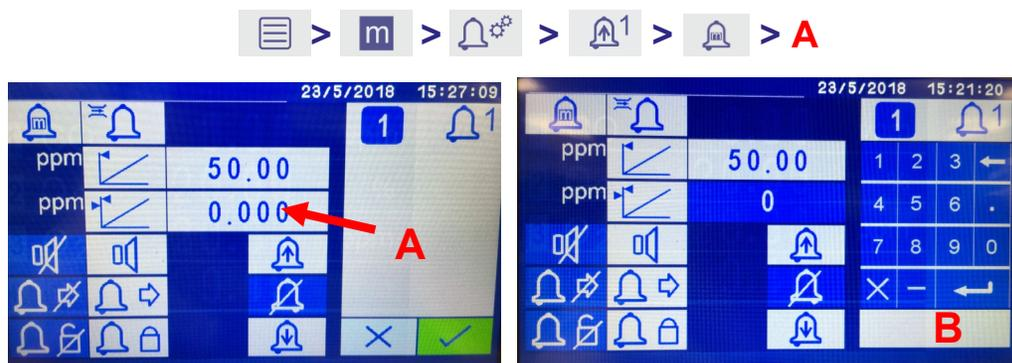

Figure 7-12: Alarm Hysteresis values set by pressing (A) and number key pad (B).
1. Touch the number to the right of the  icon as shown in Figure 7-12 A.
2. Use the number keypad shown in Figure 7-12 B to type in the threshold value.